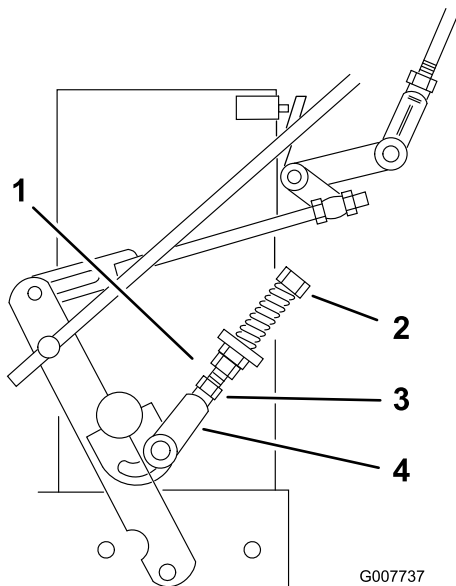

Figure 31
9. If the wheel turns while holding the drive lever in neutral, the neutral control linkages need adjustment (Figure 31). If the wheel stops then go to step 12.
10. Loosen the nut against the neutral control linkage yoke (Figure 31).
11. Adjust the neutral control linkage until the respective drive wheel stops while the drive lever is pulled against the neutral spring (neutral position) (Figure 31).
12. Turn the adjusting bolt approximately 1/4 turn clockwise if the wheel is turning in reverse or turn the bolt approximately 1/4 turn counter-clockwise if the wheel is turning forward (Figure 31).